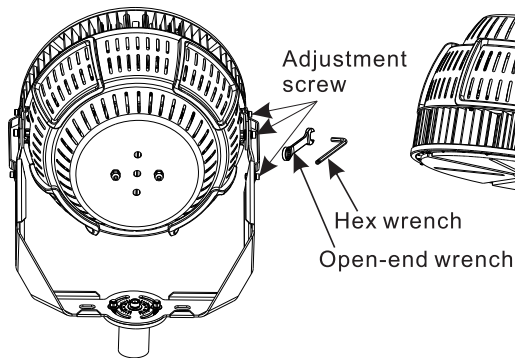

Figure 9
3. Use an open-end wrench and hex wrench to loosen the adjusting screw for adjusting the angle (Figure 9)